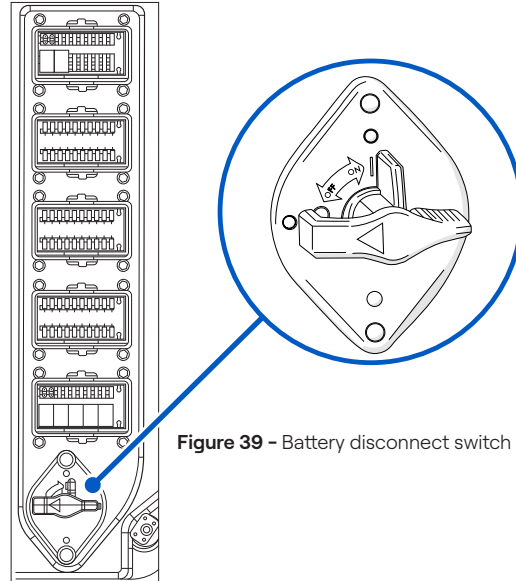

Figure 39 - Battery disconnect switch
9. Turn the Battery Disconnect Switch to "OFF" (**Figure 39**).